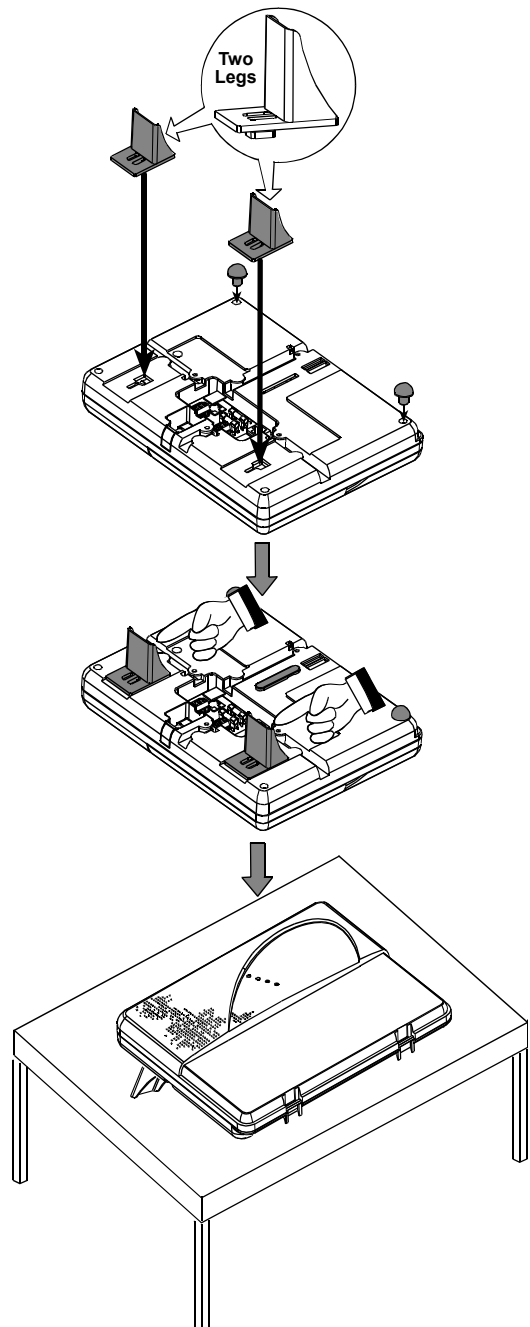

Figure 1 - Inserting Battery Pack and Mounting AMBER BASIC on a Wall / Desktop
2. Open the Battery compartment cover (see Figure 1 step 4).